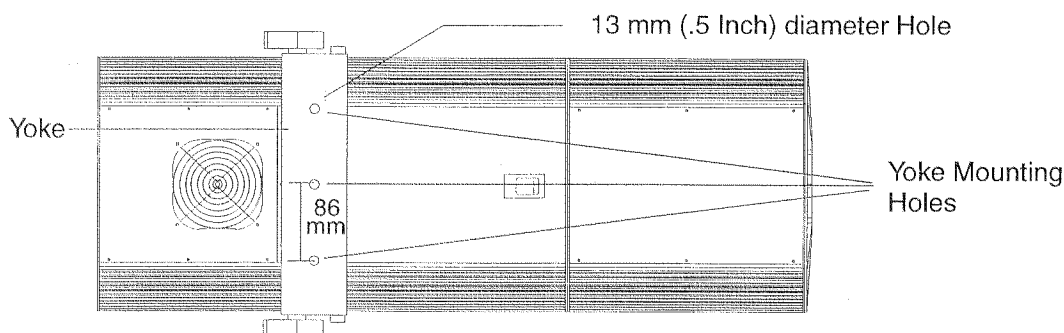

Figure 2.9. *intellabeam* Fixture — Top View
5. On the top of each yoke are three, 13 mm (.5 inch) diameter, mounting holes which provide two different ways to mount the fixture. The three holes are spaced 86 mm (3.4 inch) apart. Refer to Figure 2.9. The fixture may be mounted with a single clamp in the center of the yoke, or with two clamps on either side of the yoke.